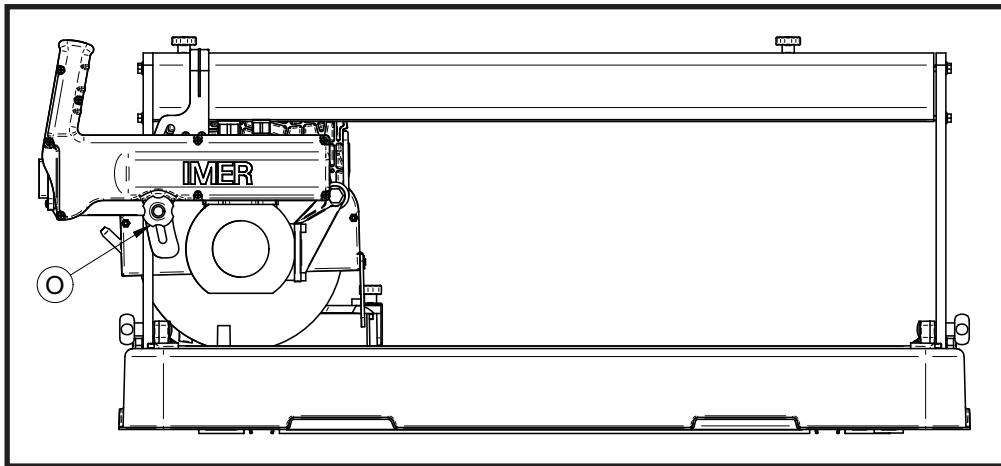

**FIG. 1**
Open the valve (ref.N, fig.1) and ensure sufficient flow of cooling water to the diamond blade.
At regular intervals (or when the flow rate of the blade cooling water is reduced) clean the cooling water supply circuit. To do this, disassemble the delivery nozzle (ref.P, fig.1) located inside the blade guard and clean in water.
1. Block axial movement of the cutting head by means of the handwheels (ref.L, fig.1).
2. Disassemble the front guard (ref.P, fig.1).